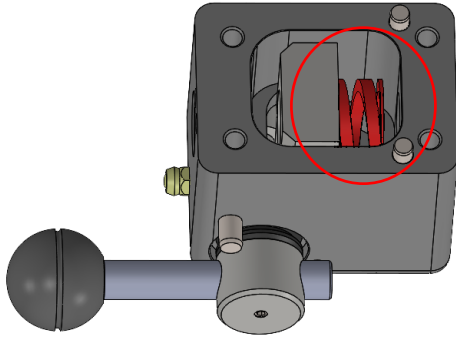

Figure 13: Reinstalling spring
13. Set the spring into the housing (*Figure 13*). Line up the central hole in the spring with the holes in both the internal locking block and vise body.